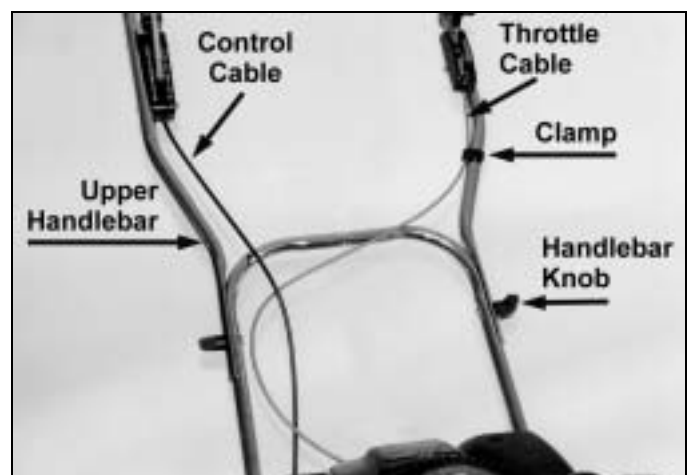

Figure 10
1. Making sure the control cables are over the lower handlebar, position the upper handlebar outside the lower handlebar (Figure 10). The ends of the upper handlebar are cupped half-circles and fit on the outside of the lower handlebar. With the holes aligned, insert one of the two round-headed 1-1/2" handlebar bolts from the inside facing out.
3. Be sure the throttle control cable on the left handlebar is secured with the black plastic clamp (Figure 10). Do not kink the control cables.